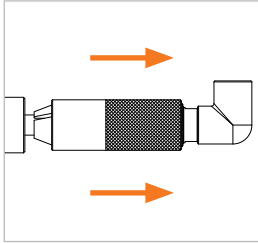

Figure 6
- ▶ Pull the sliding sleeve (Pos. 1) back (*Figure 6*). The connection to the test piece is released and the connector can be removed by pulling it straight back.